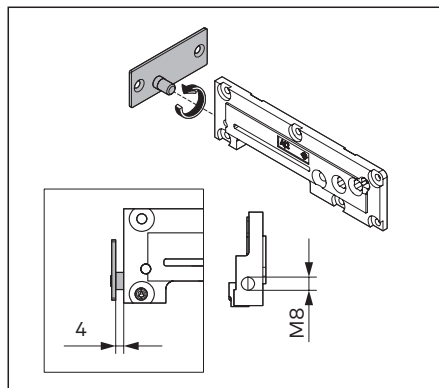

Fig. 6 Screwing the mounting plate on
11. Screw the mounting plate to the fitting (Fig. 6).